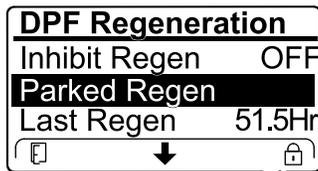

Figure 53
- If the engine computer requests a recovery regeneration or is processing a recovery regeneration and you scroll down to the PARKED REGEN option, parked regeneration locks and the lock icon (Figure 53) appears in the lower right corner of the InfoCenter.